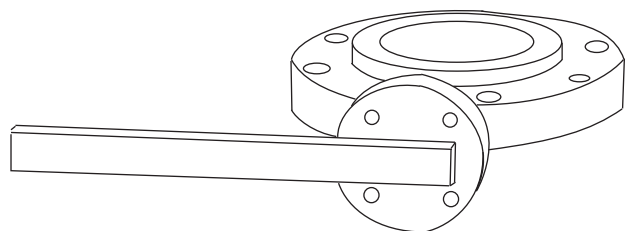

**Fig. 55 — Butterfly Valve Closed (DX Cooler Units)**
**ISOLATION VALVE (DX COOLER OPTION)** — The isolation valve is a factory-installed option for 30XA units with DX coolers. The option includes a butterfly-style suction service valve on the suction lines, and manual ball valves on discharge, cooler inlet and economizer lines. The butterfly valve is connected to the suction line by flange connections. See Fig. 55 and 56 for details on the butterfly suction service valve operation. The valve locks into place when fully opened or fully closed.